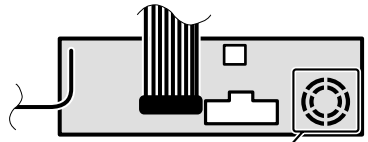

Fig. 8
- The cords must not cover up the area shown in the figure below. This is necessary to allow the amplifiers to radiate freely. (Fig. 8)